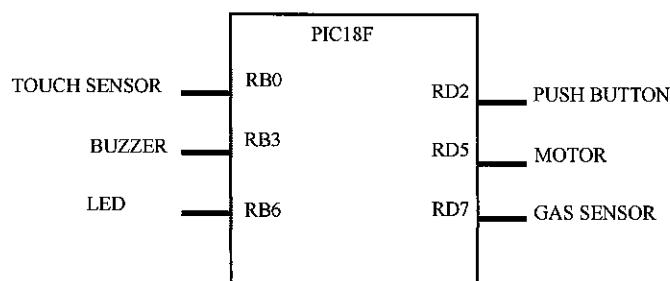

Figure A1(b) / Rajah A1(b)
- CLO1 (b) Based on Figure A1(b), which shows the connection between input devices and output devices with the PIC microcontroller, write a C instruction to configure the input/output pin using bit addressable and byte addressable methods.